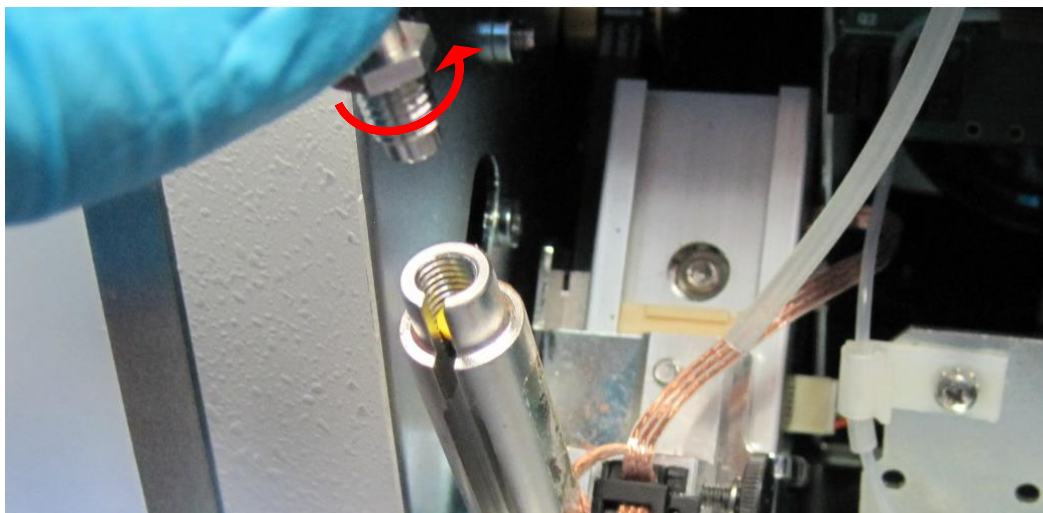

Figure 7
7. Use the Open-End Wrench to unscrew the old Needle Tip Assembly (counter-clockwise) from Needle Piston Assembly. Discard the Needle Tip Assembly into a proper Biohazard disposal. (Figure 7)